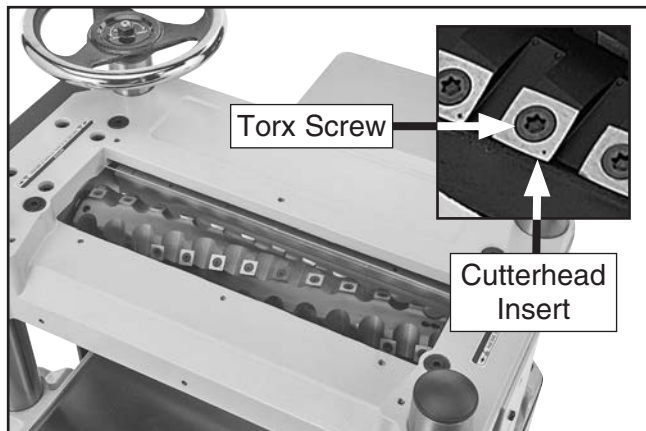

Figure 25. G0891 cutterhead inserts and Torx screws.
4. Remove any sawdust or debris from head of insert, Torx screw, and surrounding area (see **Figure 25**).